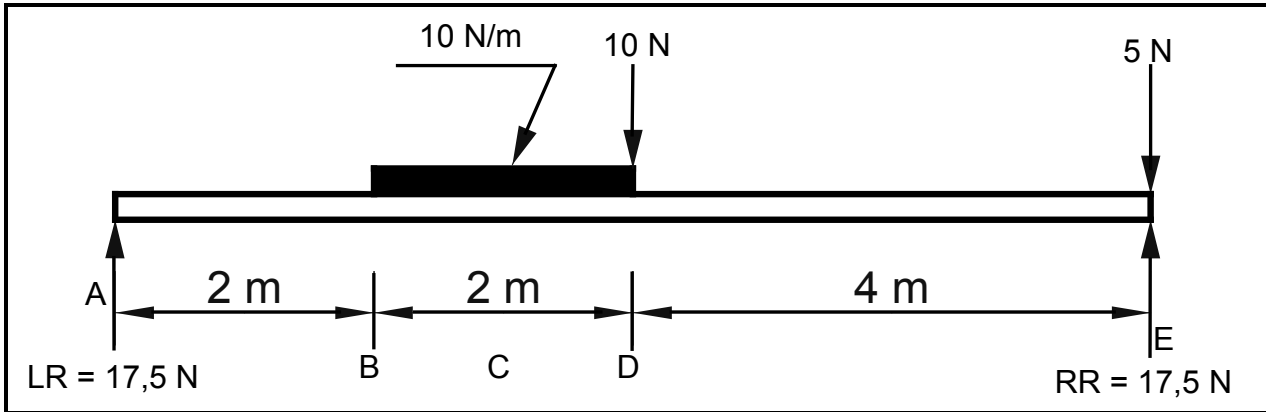

FIGURE 5.3
- 5.3 FIGURE 5.3 below shows the space diagram of a beam with a span of 8 metres with two point loads and a uniformly distributed load. Study the diagram and answer the questions that follow.